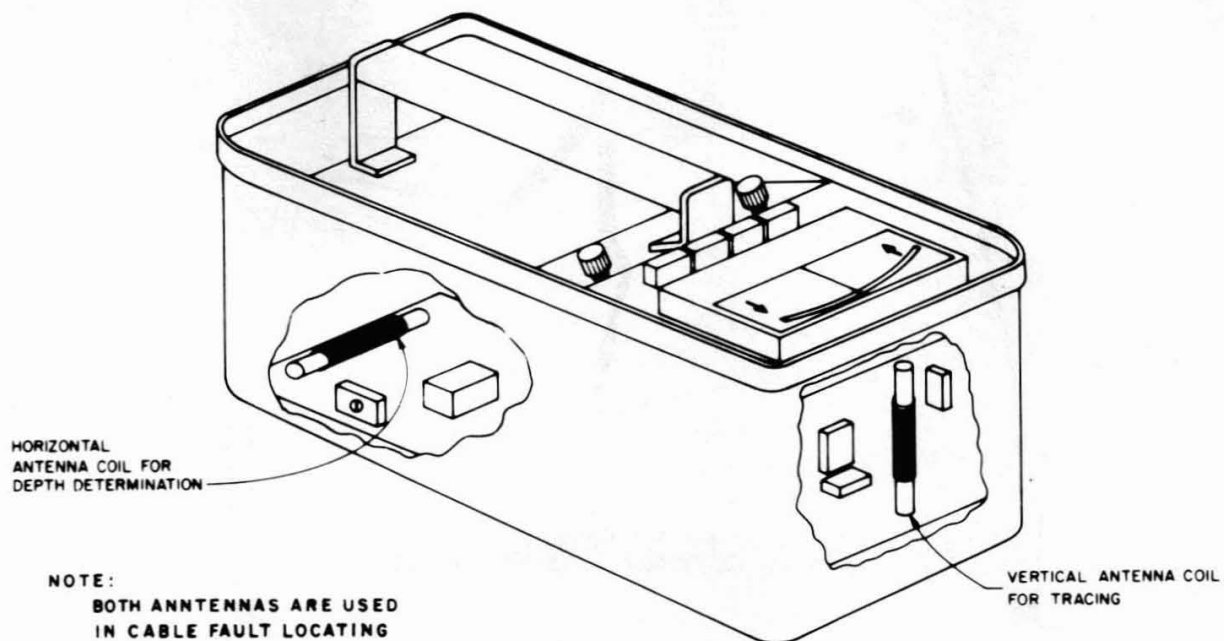

Fig. 5—Receiver Antenna Locations
3.05 The locations of the receiver antennas are shown in Fig. 5.